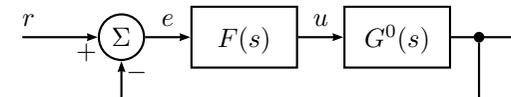

Figure 6.4a
- 6.4 Consider the control system in Figure 6.4a. The true system, denoted  $G^0(s)$ , is modeled as